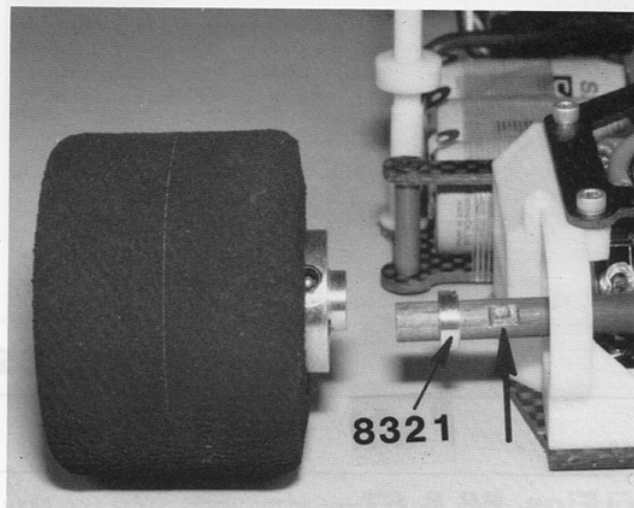

Fig. 72
□ **Fig. 72**—Slide the other #8321 aluminum spacer onto the axle so that the stepped end of the spacer will be touching the ball bearing. Slip the wheel on and tighten the set screw just enough to mark the axle.